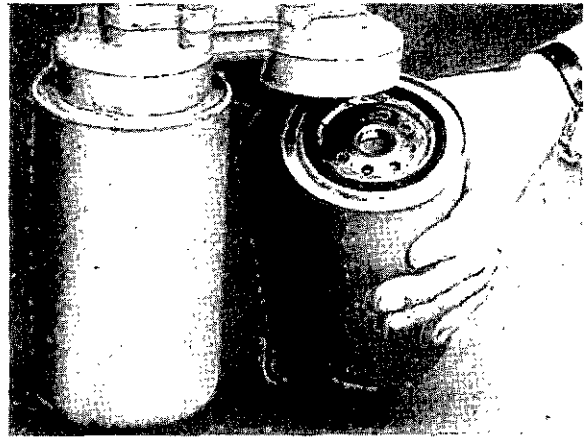

Fig. 18 Lubricating oil canister
2. Remove the filter canister (see fig. 18) with a strap wrench or similar tool and discard the canister.